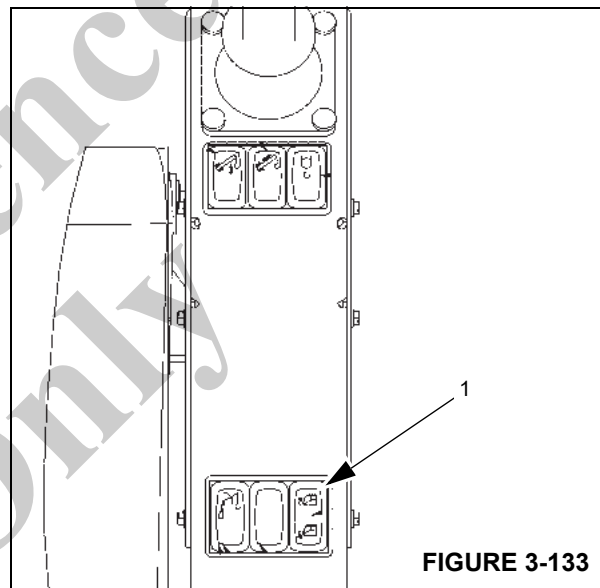

FIGURE 3-133
2. Press the top of the switch (1) (Figure 3-133).